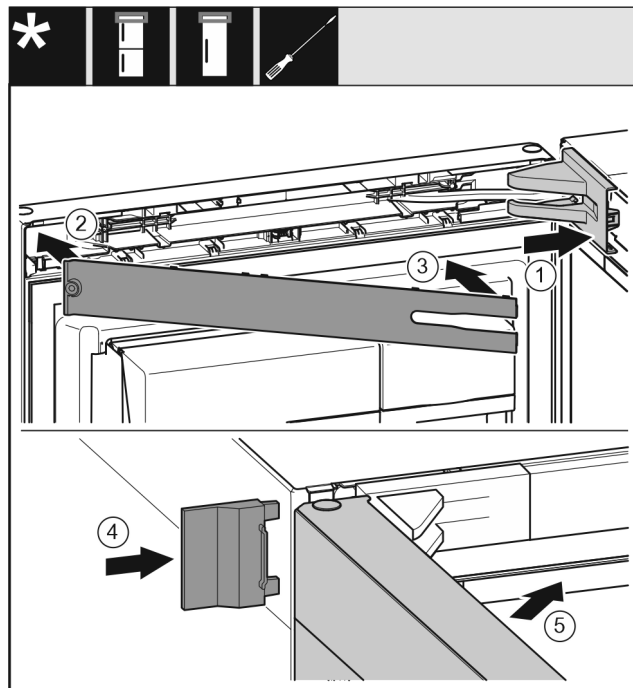

Fig. 46
- ▶ Put the swap bearing block cover *Fig. 46 (1)* on and engage, push apart carefully if required.
- ▶ Fit the trim *Fig. 46 (2)*.
- ▶ Swivel in the cover *Fig. 46 (3)* and engage.
- ▶ Push the outer cover *Fig. 46 (4)* on.
- ▶ Close the upper door *Fig. 46 (5)*.